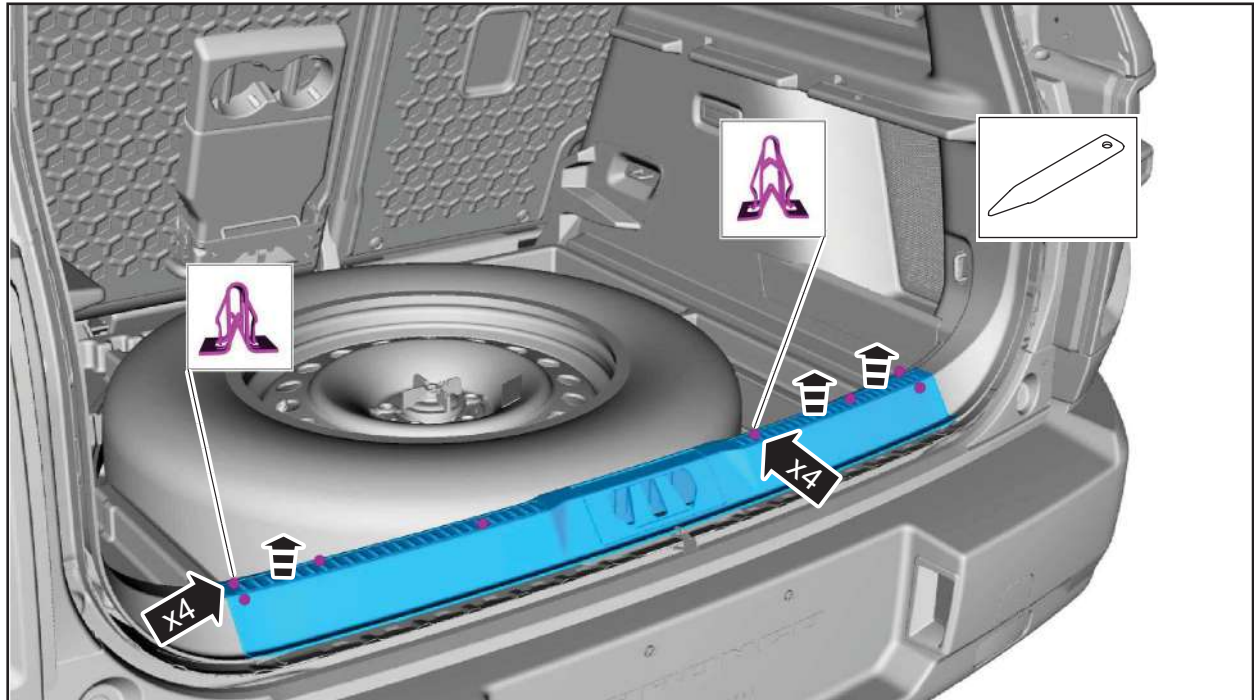

FIGURE 19
19. Release the clips and remove the loadspace scuff plate trim panel. See Figure 19.